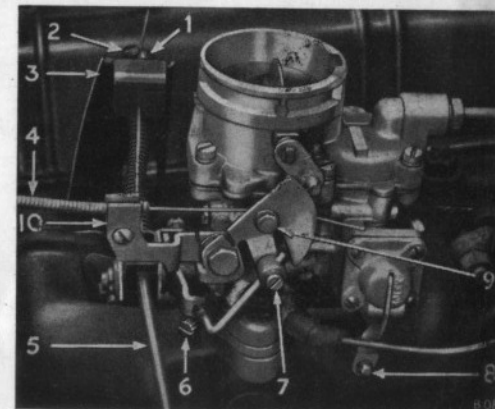

Fig. 42. Carburettor.
2. Release the choke inner and outer cables (4) Fig. 42 from the abutment bracket and cam plate screw (9).
3. Disconnect the throttle cable (5) from the throttle lever. Remove two nuts and spring washers and detach the carburettor from the manifold.